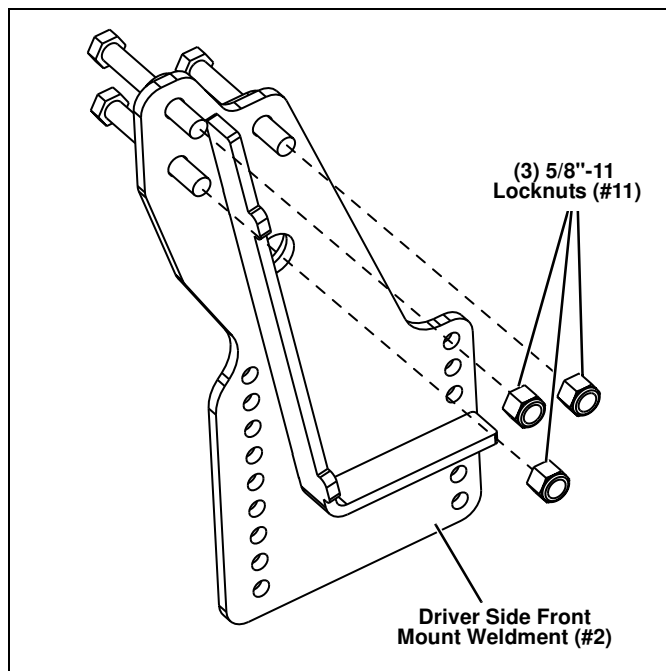

Figure 2
2. Place the Driver Side Front Mount Weldment (#2) over the bumper bracket and align with the caps screws described in step 1. Secure in place with (3) 5/8"-11 Locknuts (#11). (See Figure 2.)